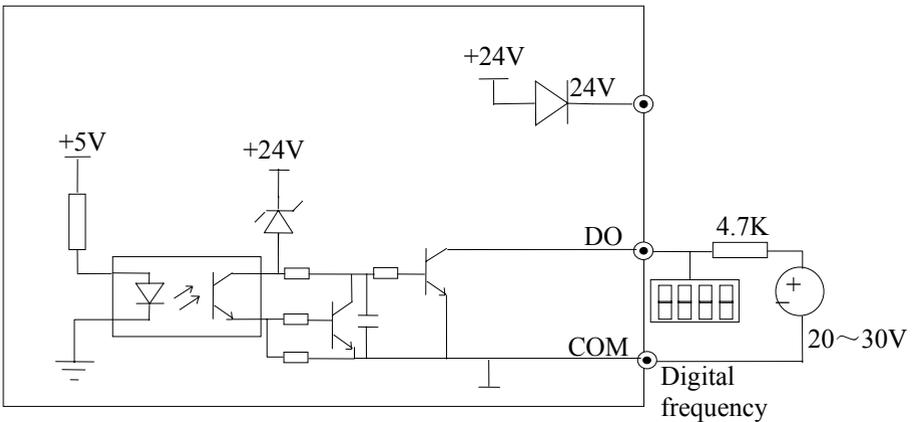

Fig 2-28 Wiring method 2 of DO as pulse output
4) Multi-function output terminals / Pulse output terminal DO as Pulse output can also use the external 9~30 V power supply and the wiring is shown in Figure 2-28.